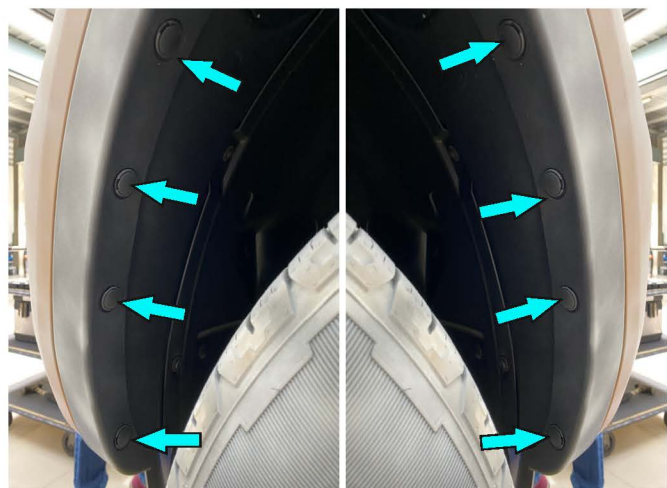

Fig.5
5. Remove plastic clips (fig.5).